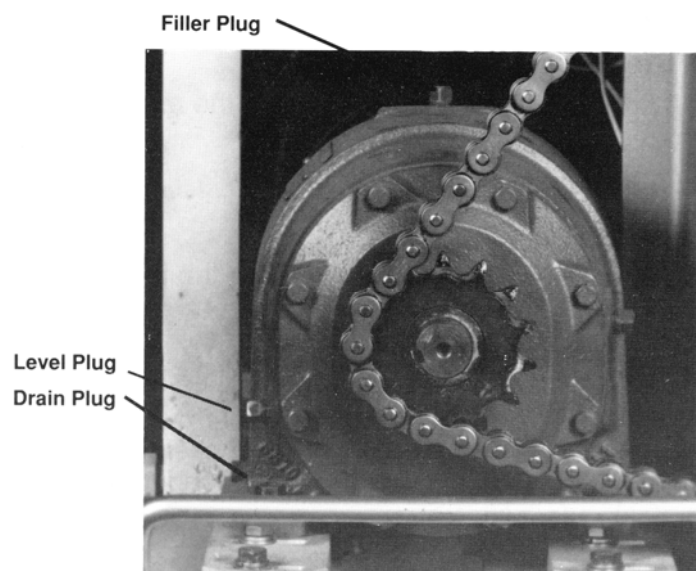

Figure 8. Checking Oil Level in Gearbox
5. Check oil level in gearbox. Refer To Figure 8.